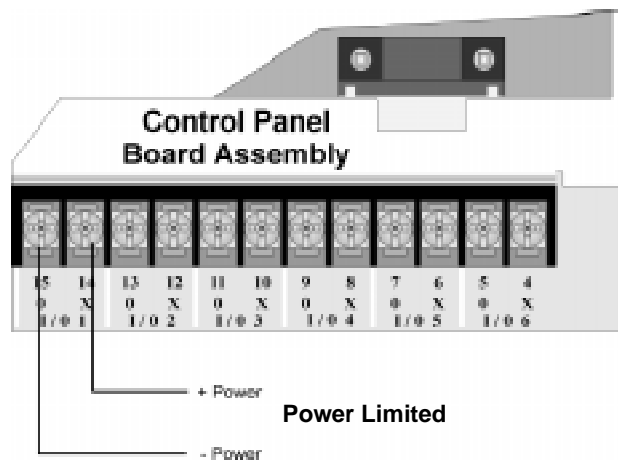

Figure 5-13 : Flexput Auxiliary Power Output
1. Wire the PWR terminals of the SD500-ANM to the Flexput terminals using “X” terminals as positive and “O” terminals as negative power. See Figure 5-13.